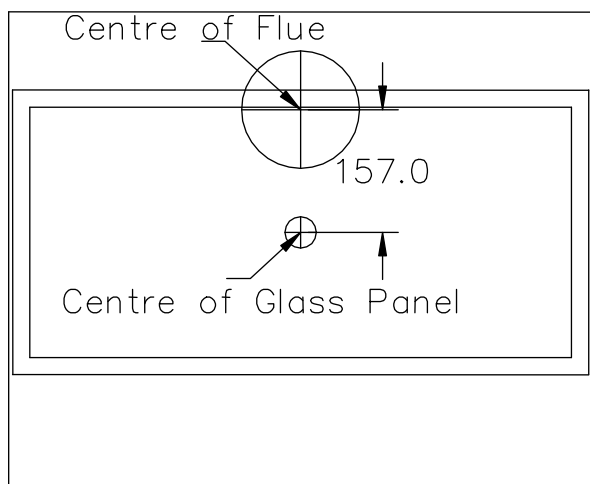

Figure 2
- 1 Select a position for the appliance and mark the centre of the flue. This should be at least 700mm above finished floor level. (This is to give sufficient clearance to allow the door to drop down). The centre of the glass panel will be 157mm below this mark (See Figure 2). At this position drill a 152mm diameter hole in the wall for the flue. Apply white foam tape (supplied) around the edges of the back of the convector box to form a dust seal between the box and the wall.